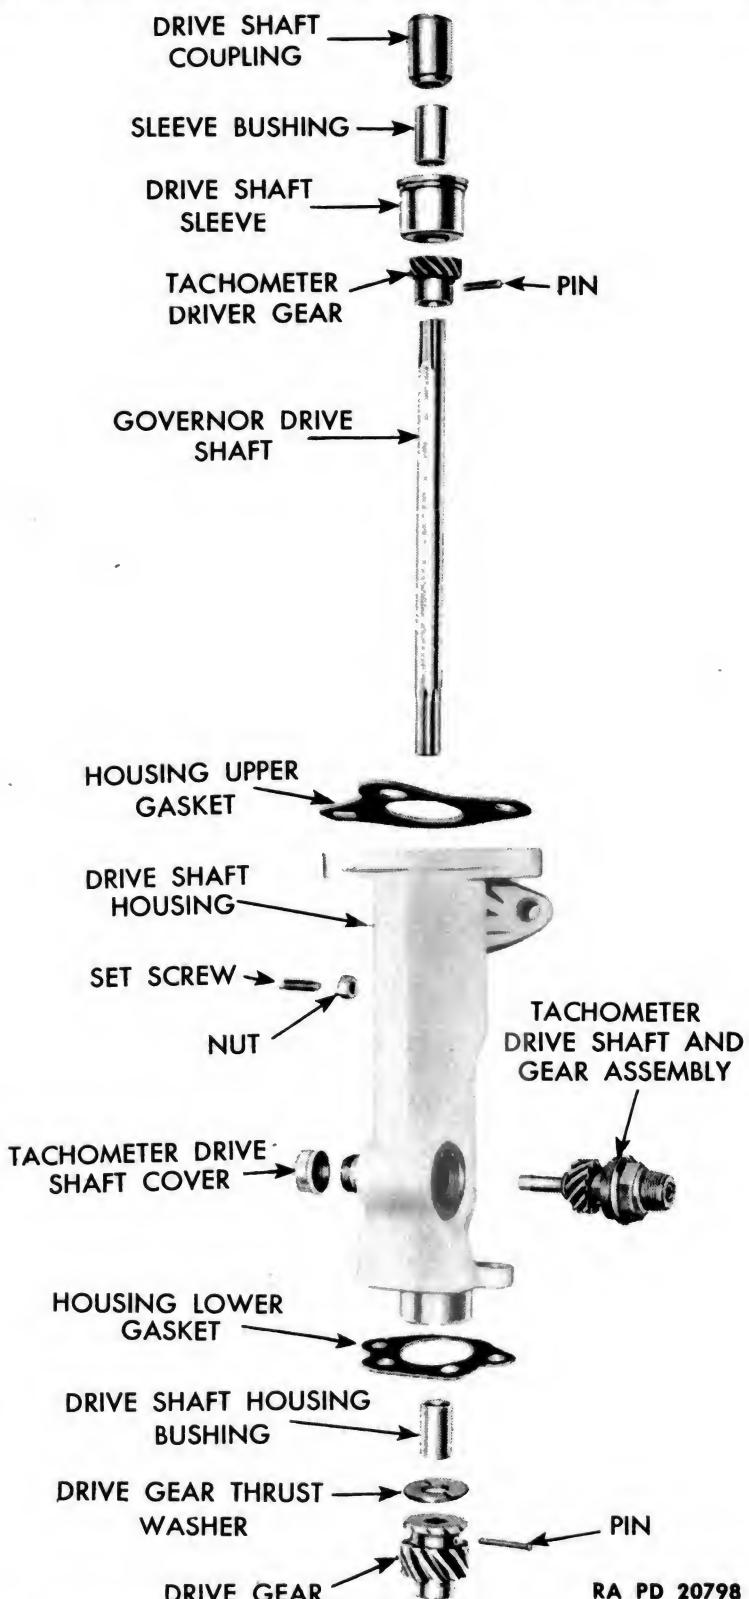

Figure 66 — Governor Drive Shaft Assembly Components
- Disassemble. Unscrew tachometer gear bearing retainer, and pull out tachometer drive assembly (fig. 66). Loosen set screw and lock nut in housing (fig. 66). With a $\frac{1}{8}$ -inch drift, drive out pin holding governor drive gear to shaft (fig. 63). With a drift, drive governor drive shaft out of housing (fig. 64). Remove sleeve and splined coupling from upper end of shaft (fig. 65).
e. **Assemble.** Insert governor drive shaft into housing with end having longest spline at the bottom (fig. 65). Slide shaft sleeve over shaft at upper end, and into upper end of housing. Before pushing sleeves into place, line up set screw seat on sleeve with tapped hole for set screw in housing. Insert set screw (fig. 66), and tighten. Assemble set screw lock nut on set screw, and tighten. Assemble thrust washer on lower end of governor drive shaft. Press governor drive gear onto shaft, with thrust face of gear next to thrust washer, and with pin hole in hub of gear in line with pin hole in shaft. Drive a $\frac{5}{32} \times 1\frac{1}{4}$ -inch straight pin through pin holes in shaft and gear,